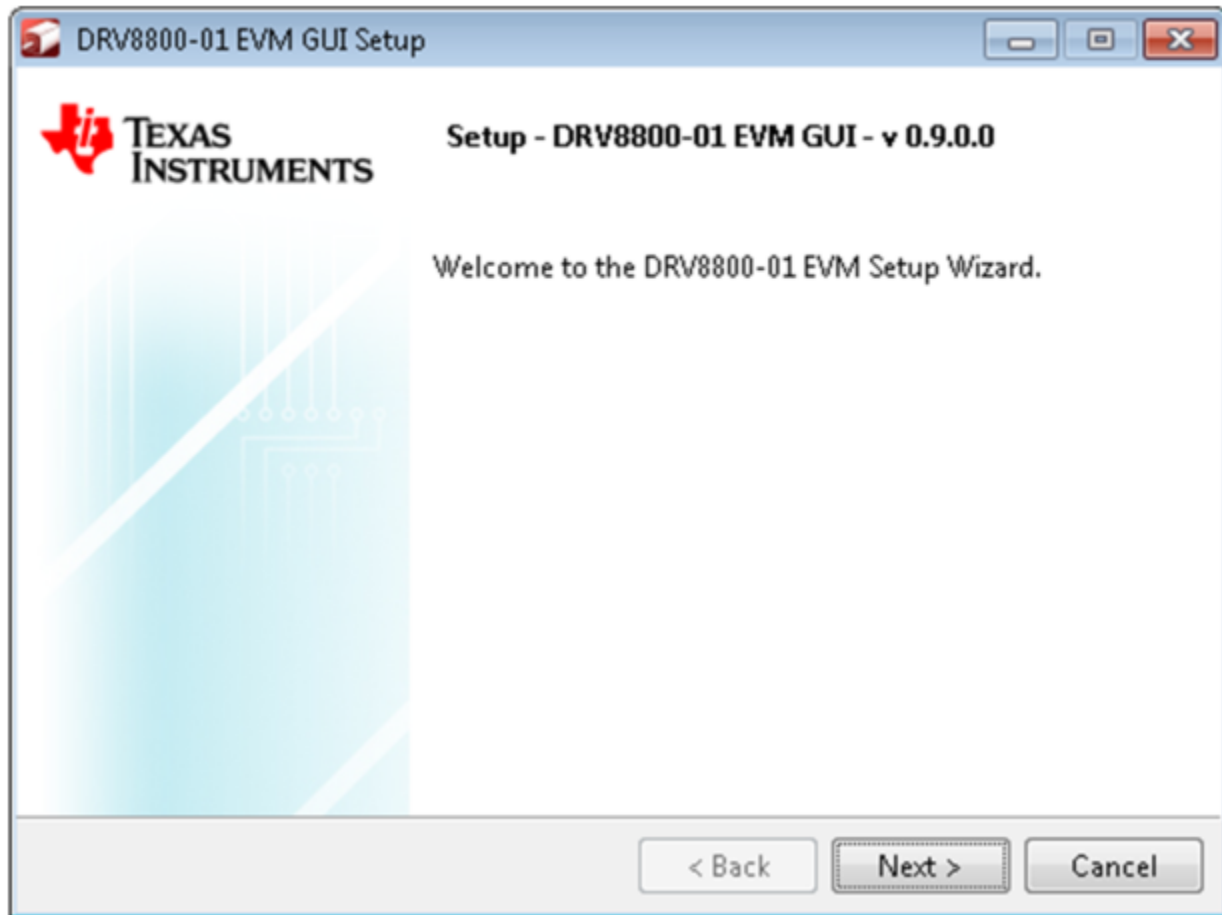

Figure 3. Installation Initialization
2. The screen shown below in Figure 3 appears, indicating installer initialization. Click the **Next** button.